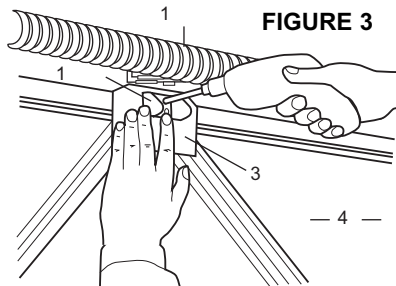

FIGURE 3
- Remove all door latching mechanisms (Figure 3), and secure any locking bars in the open position.